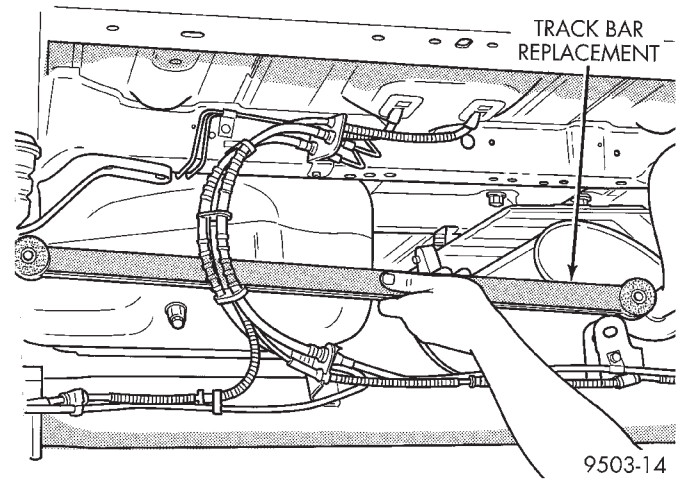

Fig. 20 Track Bar Installation
(1) Install the track bar first into the body mount for the track bar (Fig. 20). Install the track bar bolt